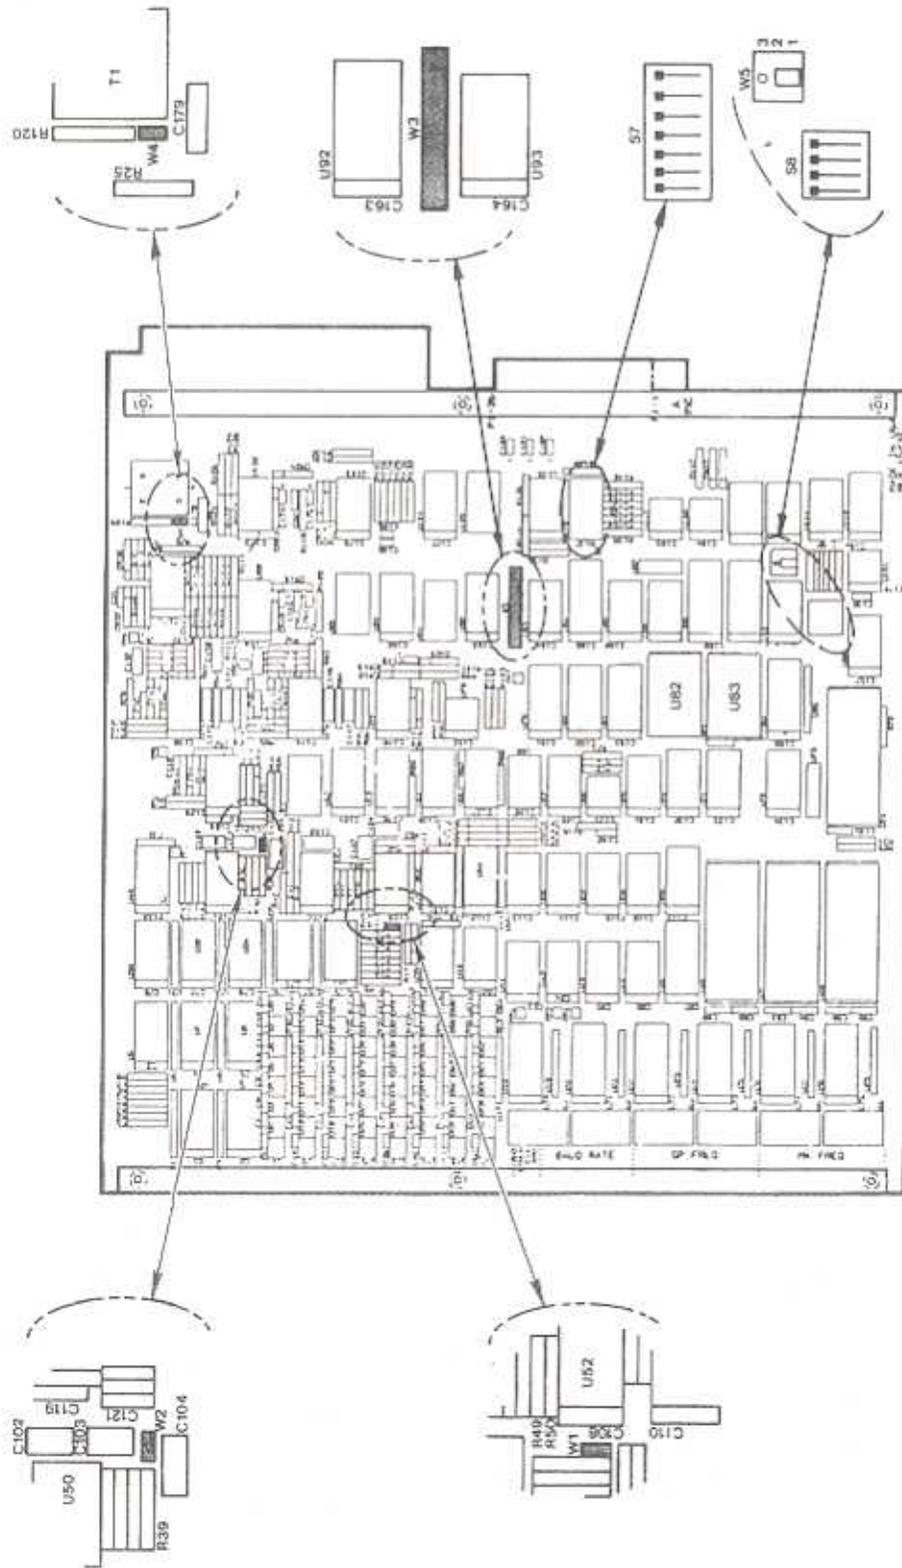

Figure 2-9. Expanded View of Demodulator Board
2.7.2.1 AUTO MARK HOLD (AMH) THRESHOLD SWITCH. The AMH threshold level is selected by switch S7 (refer to Figure 2-9) for low speed operation and for high speed operation.